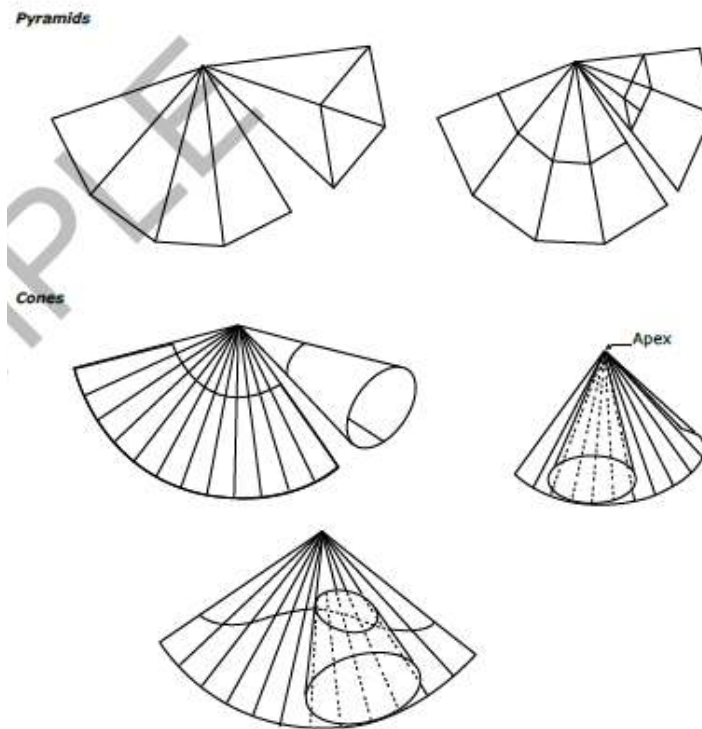

Figure 1.25. Radial line development of pyramid and frustum of a cone
4. Set the dividers equal to the distance of the step-offs on the half-plan and step off twice as many spaces on the arcs as on the half-plan; number the step-offs 1 to 7 to 1, as shown in the illustration (Figure 1.25).